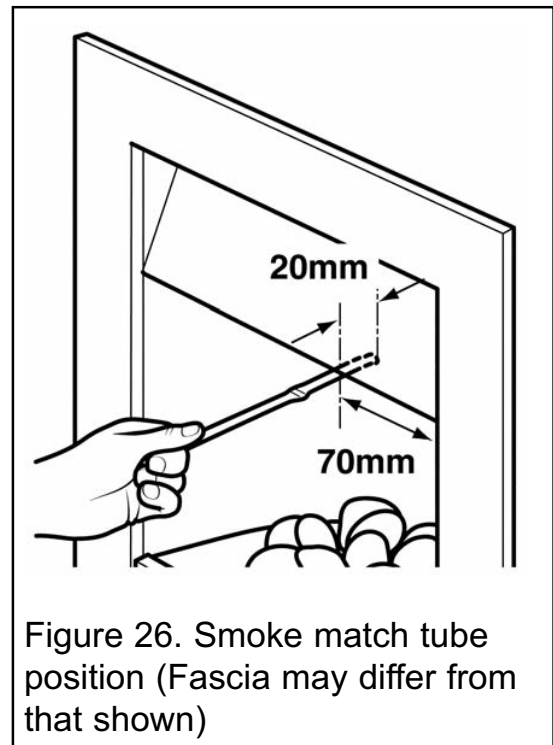

Figure 26. Smoke match tube position (Fascia may differ from that shown)
4. The smoke match should be placed horizontally into the hotbox at the right hand side (See figure 26).